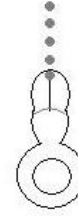

Fig. 1
2. Remove eyelet connector from end of chain and save. See **Fig. 1**.